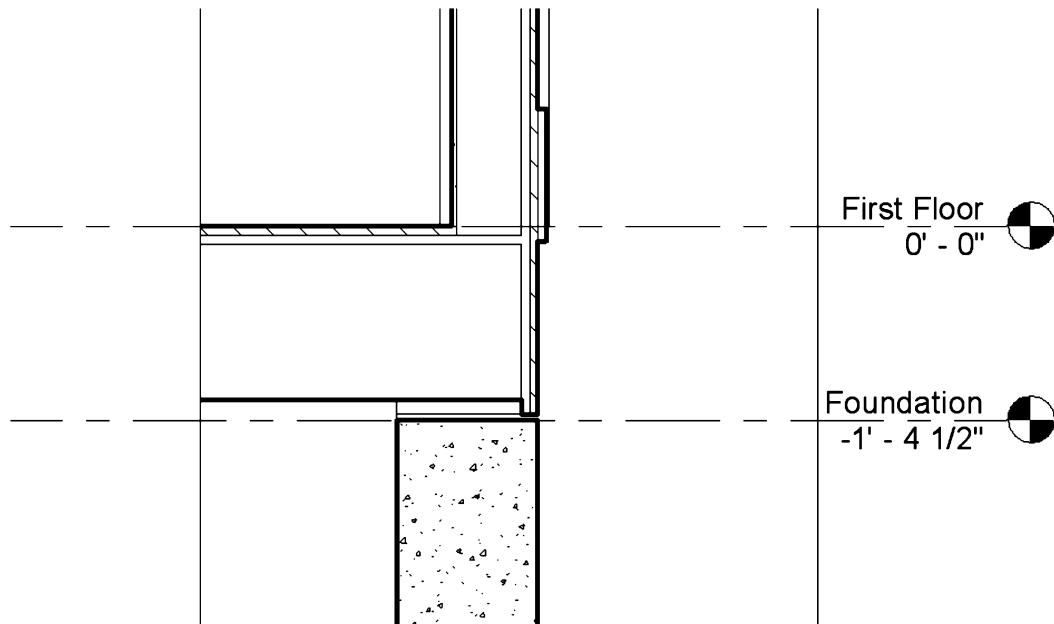

FIGURE 11-3.10 Results of ‘Base Extension Distance’ modification
25. Switch back to ***Callout of Cross Section 1*** to see the modified wall (Figure 11-3.10).